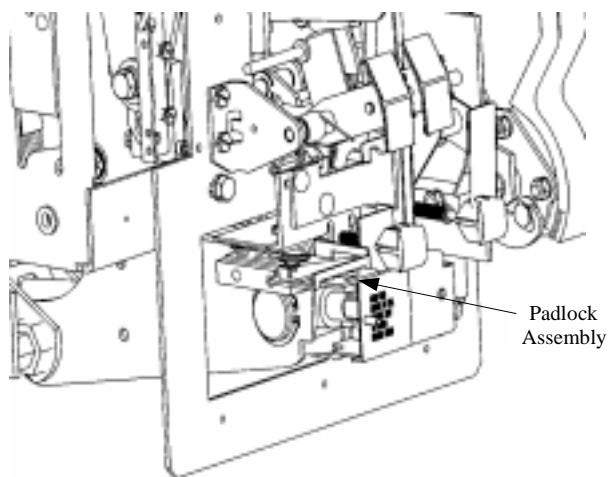

Figure 6. Padlock assembly installed on a small-frame breaker.
- Align the drilled holes with the holes in the padlock assembly [4] mounting block, as shown in Figures 6 and 7. The rivet heads in the assembly must face up. The locking lever of the padlock assembly must engage the steel plate of the push-to-trip rod. Secure with two $\frac{1}{4}$ -20 x $1\frac{1}{4}$ " screws [2] and lock washers [3] and tighten to 70–85 in-lb.